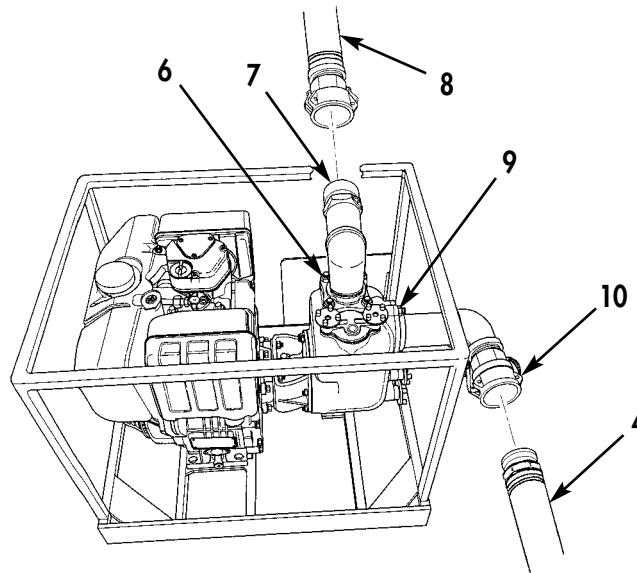

Figure 3. Disconnecting Pump.
7. Remove 2 in. (51 mm) DIA x 10 ft (3 m) long suction hose assembly (Figure 3, Item 4) from female quick-disconnect coupling (Figure 3, Item 10) on pump suction port (Figure 3, Item 9). Drain water from hose assembly (Figure 3, Item 4) and install cap and plug.
8. Disconnect 2 in. (51 mm) DIA x 10 ft (3 m) long discharge hose assembly (Figure 3, Item 8) from male quick-disconnect coupling (Figure 3, Item 7) on pump discharge port (Figure 3, Item 6). Install cap and plug.